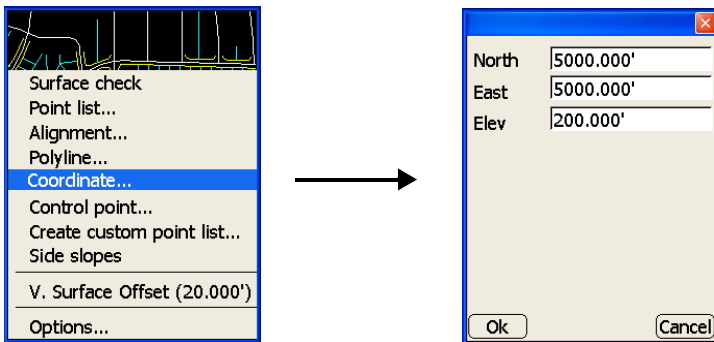

Figure 7-15. Navigate to Coordinates Dialog Box and Enter Coordinates
1. To stake-out a coordinate, press **Survey ▶ Stake-out ▶ Coordinate** (Figure 7-15 on page 7-13).
2. On the *coordinate* dialog box, input the desired Northing, Easting, and Elevation, then press **Ok** (Figure 7-15 on page 7-13). Tap in each *coordinate* field to enter the coordinates for Northing (North/X), Easting (East/Y), and Elevation (Elev/Z), then press **Ok**.